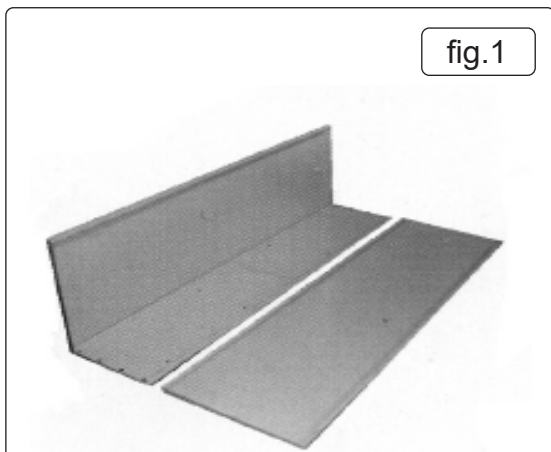

fig.1
- 4.1. Lay out the back panel and the two side panels (fig.1). The side panels have a cut-out at the front (fig.2). Fit the left hand side panel to the back panel, secure using the bottom and two middle screws only.